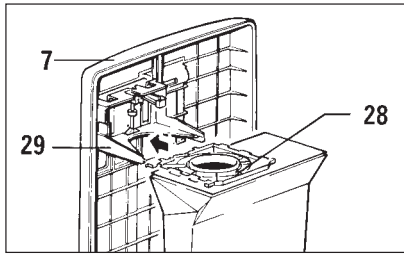

Figure 7
## Changing the Dust Bag - Figure 7
2. Bag not inserted properly	2. Reinsert bag with cover release flap (5) up, until firmly latched in bag holder (see pg. 8, figure 7).